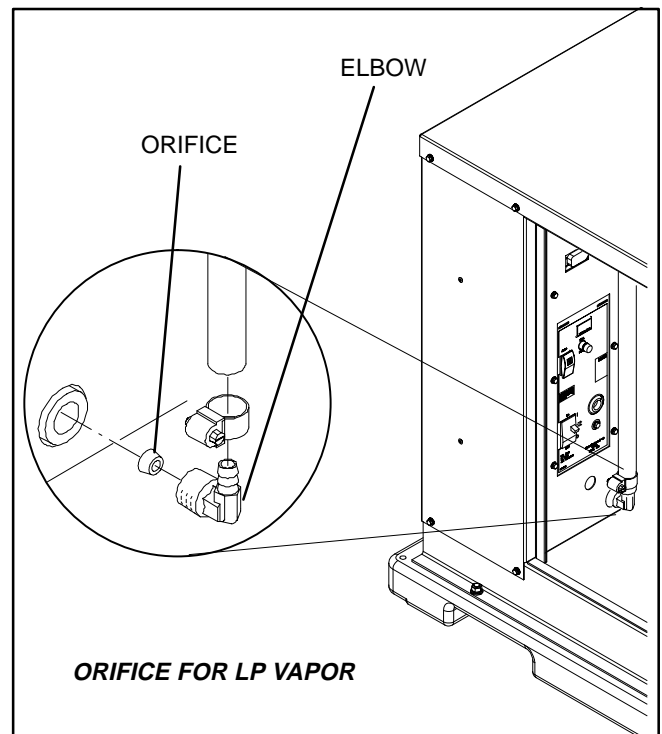
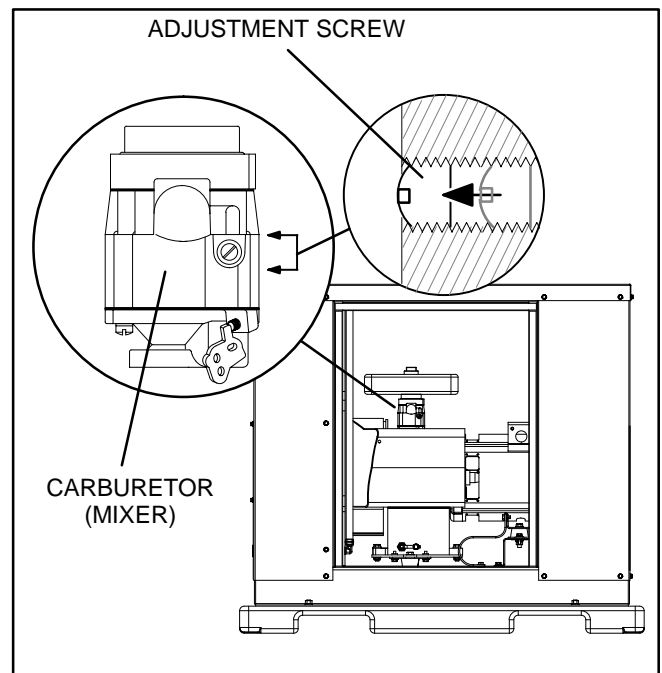

FIGURE 3-3. NATURAL GAS TO LP VAPOR CONVERSION
FIGURE 3-4. CARBURETOR ADJUSTMENT
The genset leaves the factory set up for natural gas. The genset must be converted to use LP Vapor. Conversion involves inserting an orifice into the brass elbow (See Figure 3-3) and adjusting the carburetor (See Figure 3-4). The genset is shipped with a kit containing the orifice for conversion.
2. Remove the elbow following the regulator in the fuel line (Figure 3-3).
4. Turn the carburetor (mixer) idle screw from all the way in (original factory setting) out so that the top of screw is flush with the body of the carburetor. See Figure 3-4.